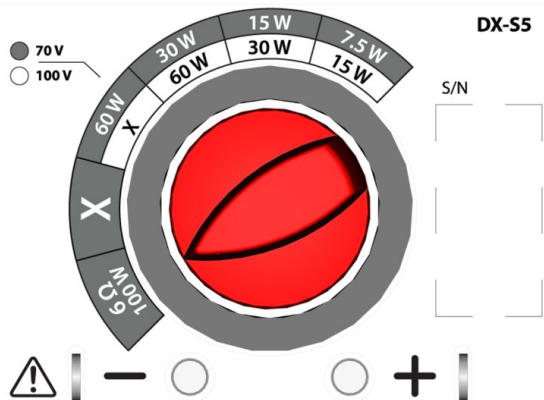

Figure 4. Rotate tap switch
- The tap switch should be adjusted before you attach the speaker to the bracket. Rotate the switch to the desired setting (Figure 4).